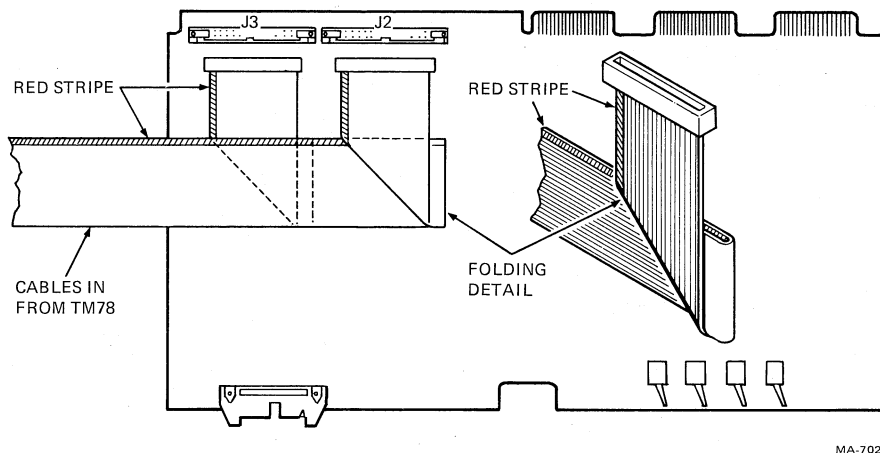

Figure 3-14 Cable Orientation on TU78 MIA PCBA (Slave Only)
11. Dress and bend the cables as shown in Figure 3-14. Note the orientation of the red stripe. Plug the appropriate cables into the two MIA jacks (J2 and J3). Any slack in the cables should be taken up, folded, and tie-wrapped.